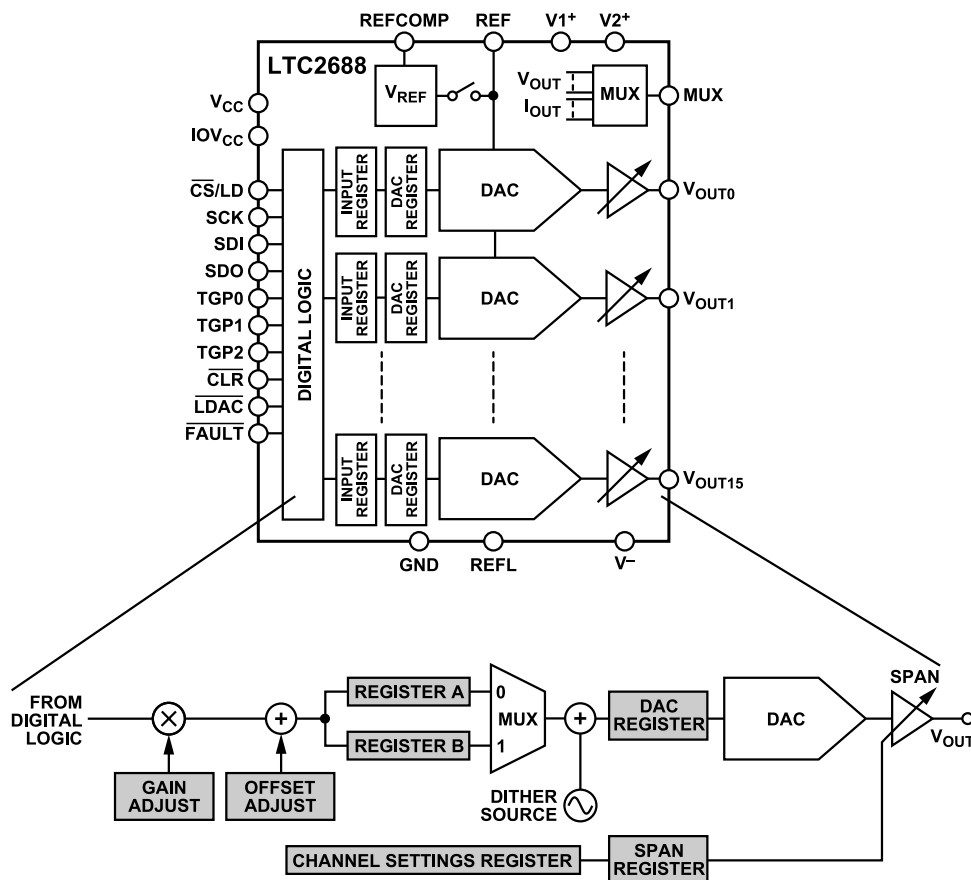

Figure 47. Block Diagram
- ▶ **Input register:** the write operation shifts data from the SDI pin into a chosen input register. The input registers are holding buffers. Write operations do not affect the DAC outputs directly. In the code datapath, there are two input registers, A and B, for each DAC register. Input Register B is an alternate input register used only in toggle and dither operation, whereas Input Register A is the default input register (see Figure 47).
- ▶ **DAC register:** the update operation copies the contents of an input register to its associated DAC register. The content of a DAC register directly controls the DAC output voltage or range. The update operation also powers up the selected DAC if it was in power-down mode. The datapath and registers are shown in Figure 47. Updates always refresh both code and span data, but the values held in the DAC registers remain unchanged unless the associated input register values have been changed via a write operation. For example, writing a new code and updating the channel updates the code, but the span is unchanged. A channel update can come from a serial update command, an LDAC negative pulse, or a toggle operation.